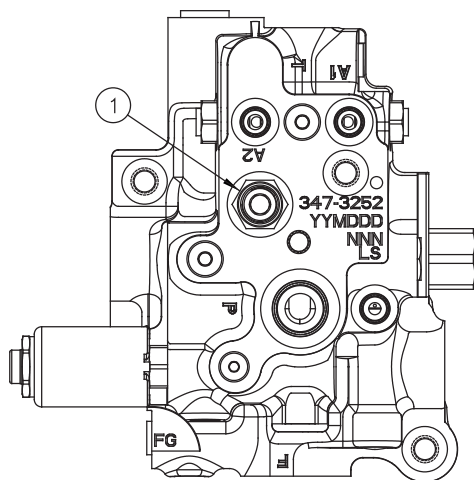

FIGURE 1
NOTE: Prevent contamination to the accumulator charging valve and hydraulic system. Thoroughly clean the valve and surrounding area of all dirt, grease, oil, etc. before servicing. See Figure 1 and locate nut (1) on the valve while the valve remains installed on the machine.